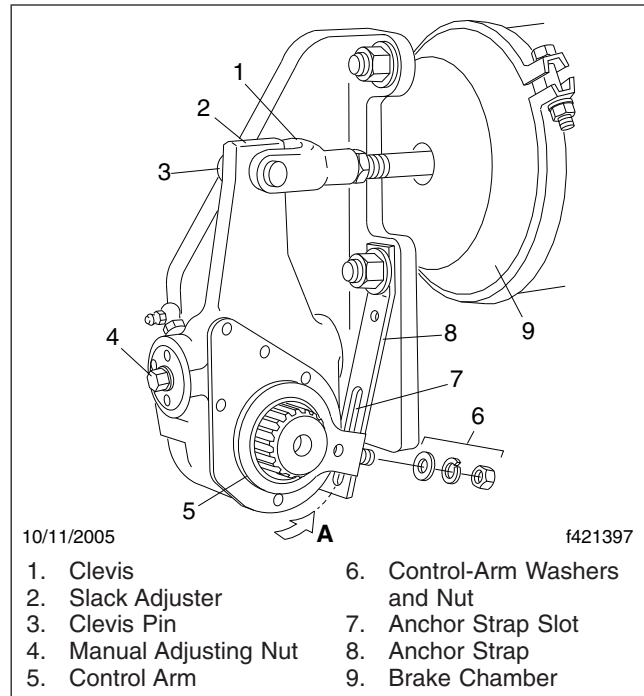
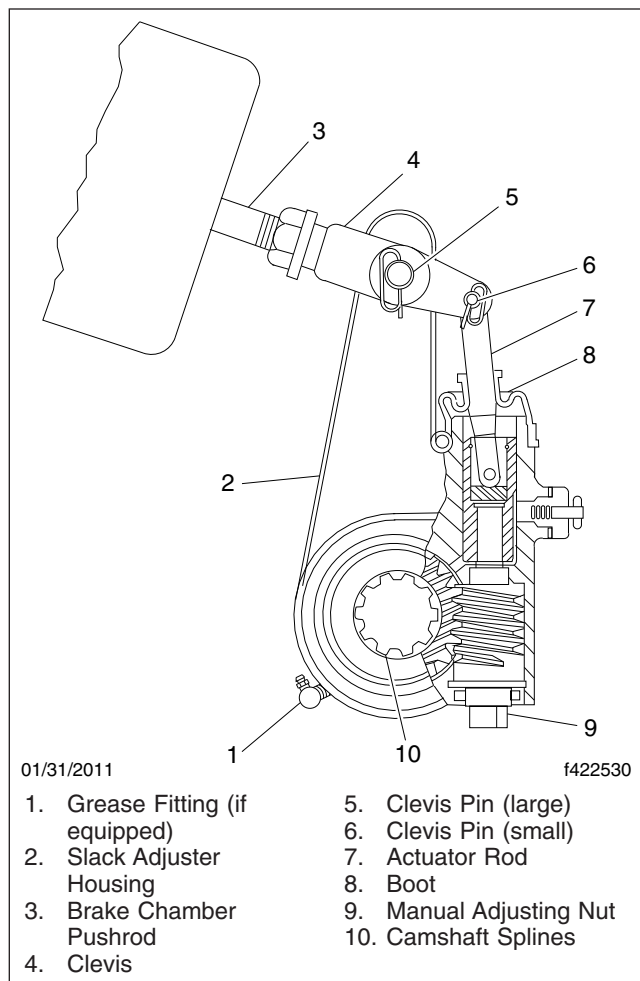

Fig. 20.1, Haldex Automatic Slack Adjuster
Fig. 20.2, Meritor Automatic Slack Adjuster
2. Inspect slack adjusters for signs of damage. See Fig. 20.1 or Fig. 20.2.